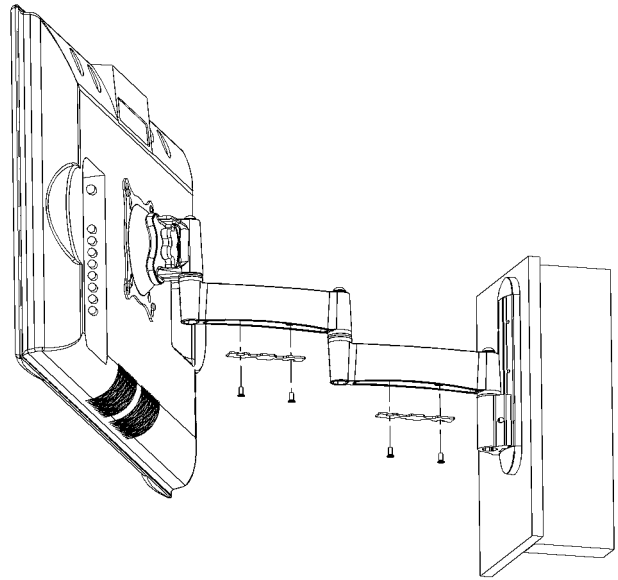

Figure 9. Cable Covers
2. Secure cables using cover plates and four screws. (See Figure 9 and “DRAWINGS” on page 4.)